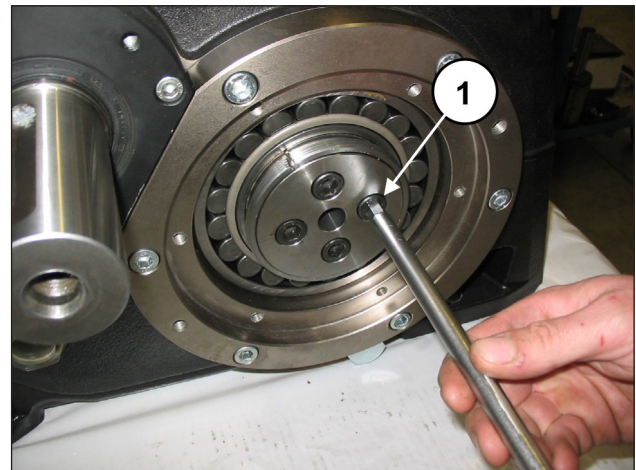

Fig. 89
Screw the two bush locking flanges onto the crankshaft using 4+4 x M12x25 screws (pos. ①, Fig. 89).